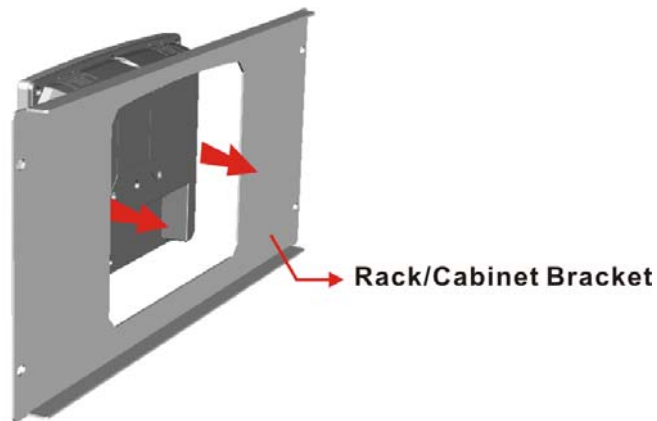

Figure 4-15: The Rack/Cabinet Bracket
- Step 1:** Slide the rear chassis of the AFL2-12A-D525 flat bezel panel PC through the rack/cabinet bracket until the aluminum frame is flush against the front of the bracket (**Figure 4-15**).